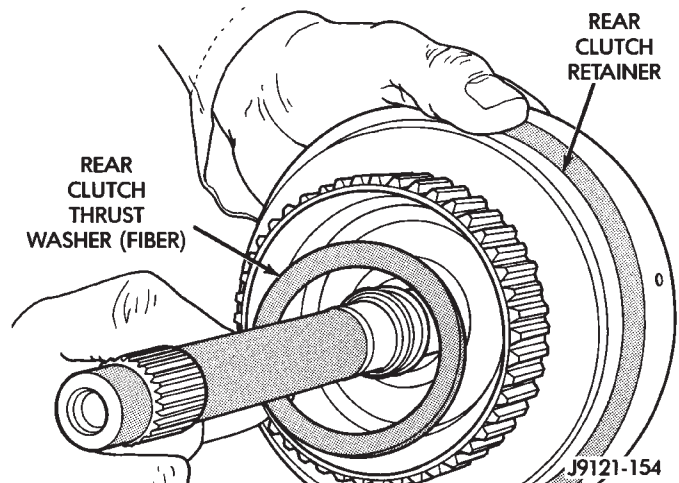

Fig. 114 Installing Rear Clutch Thrust Washer
(12) Install rear clutch thrust washer (Fig. 114). Use additional petroleum jelly to hold washer in place if necessary.